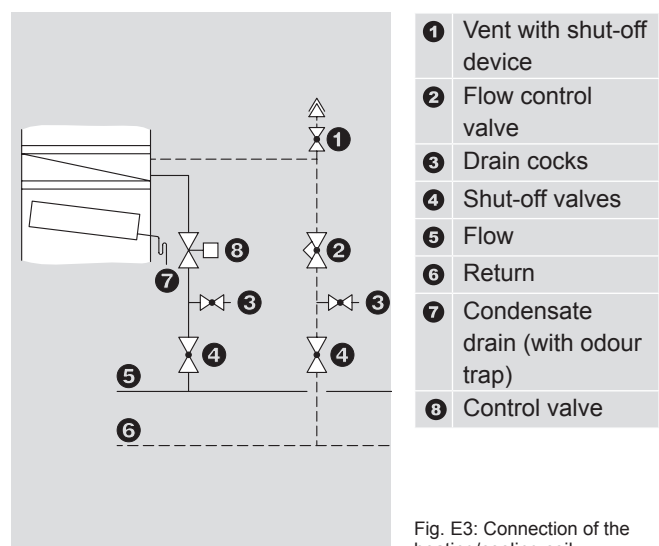

Fig. E3: Connection of the heating/cooling coil
- Connect the heating/cooling coils in accordance with Fig. E3. Depending on local conditions, check whether compensators for linear expansion are required for the flow and return lines and/or articulated connections are required for the units.